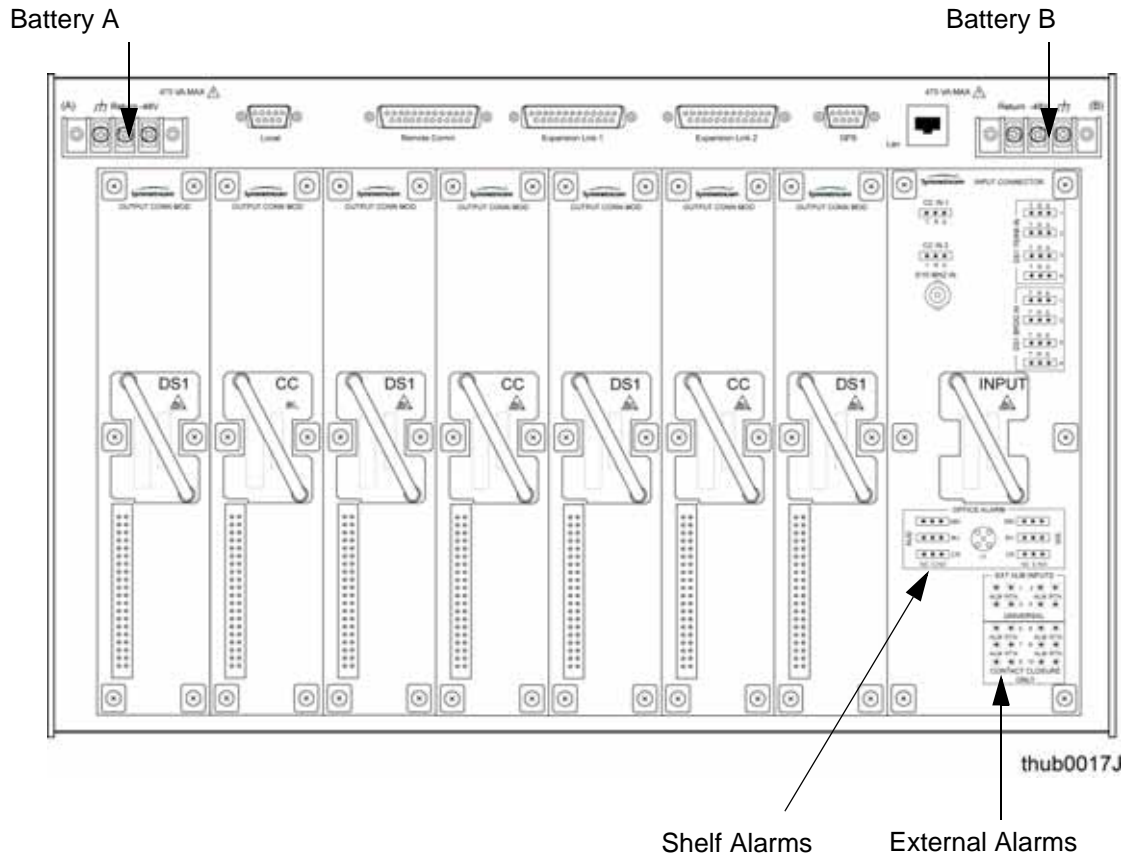
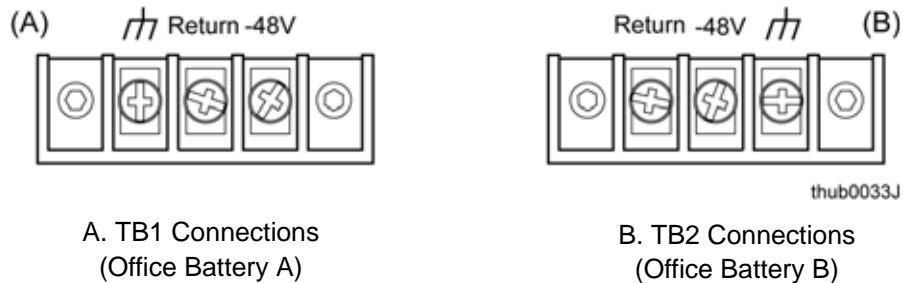

Figure A-1. Connectors on the Rear Panel of the Master Shelf
Figure A-3. Power and Ground Connections on the Master Shelf
The TimeHub has redundant -48VDC power input connections labeled A and B. Both are located in the upper-right and upper-left corners of the rear panel, as shown in Figure A-1. A separate frame ground lug is provided on the upper corner of the side panel.
Frame ground connections are made on power terminal blocks TB1 and TB2 on the rear panel of the shelf. Figure A-1 illustrates the terminal connections.
2. Crimp the supplied spade lug to one end of the 1.5 mm² / 16 AWG wire and connect it to the ground terminals on TB1 and TB2 (Figure A-1).
2. Locate the power terminal blocks on the rear panel (Figure A-3).
To verify that the power connections to the TimeHub main shelf are correct, follow the steps in this section. Use a digital multimeter (Fluke 77 or equivalent) to make the measurements. Refer to Figure A-1 and Figure A-3. Use this procedure for Master/Remote and Expansion shelves.
3. Disconnect the -48V battery A and battery B leads from the shelf power terminal blocks TB1 and TB2 (Figure A-3). Leave the Return battery leads connected to the shelf.
The Expansion shelf has redundant -48VDC power input connections labeled A and B. Both are located in the upper-right and upper-left corners of the rear panel; the connections are three-position terminal blocks, as shown in Figure A-3. The connections are *not* the same as on the Master shelf.